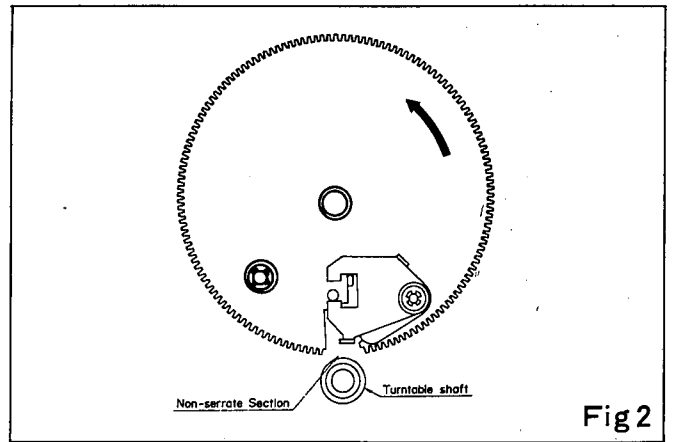

Fig 2
- a. Turn the drive gear so that non-serrate section faces the turntable shaft. (Fig. 2)